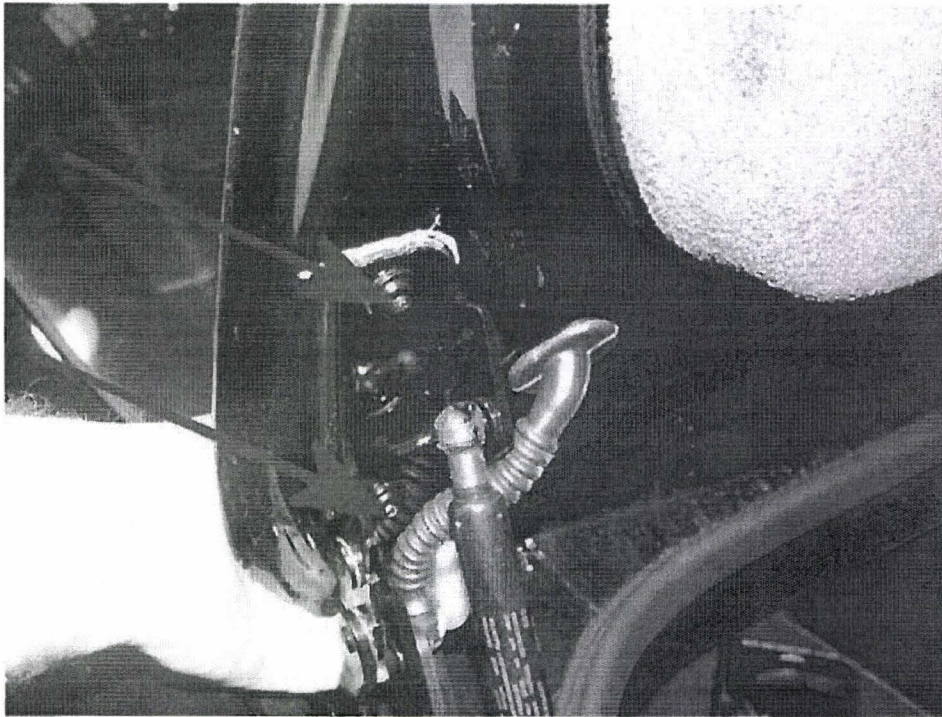

Figure 3
2. Mark the left hand hinge with a clay pencil around the top edge and loosen the left hand hinge M8 retaining bolts (when the bolts are loosened ensure the boot lid does not drop (Figure 3) and allow